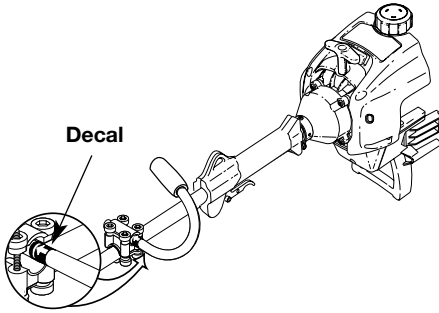

Fig. 5
- Slide the J-handle out until the arrow/white line on the decal touches the clamp assembly (Fig. 5).